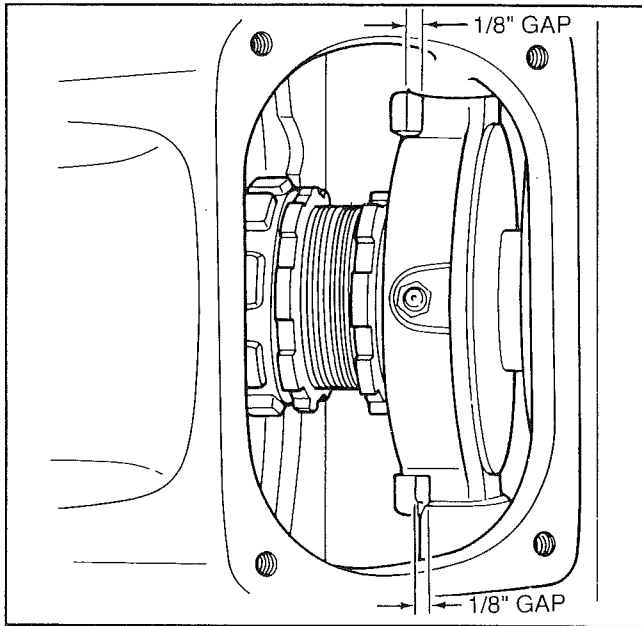

Figure 11-4. Clutch Release Bearing and Release Yoke Clearance
2. Adjust the vehicle's clutch release linkage to obtain a 1/8-inch gap between the release yoke tips and the release bearing contact wear pads (Fig. 11-4). Measure gap with appropriate tool. Refer to the vehicle manufacturer's instructions for information on how to adjust the clutch linkage. See typical clutch linkage. (Fig. 11-5, Sheets 1 and 2)